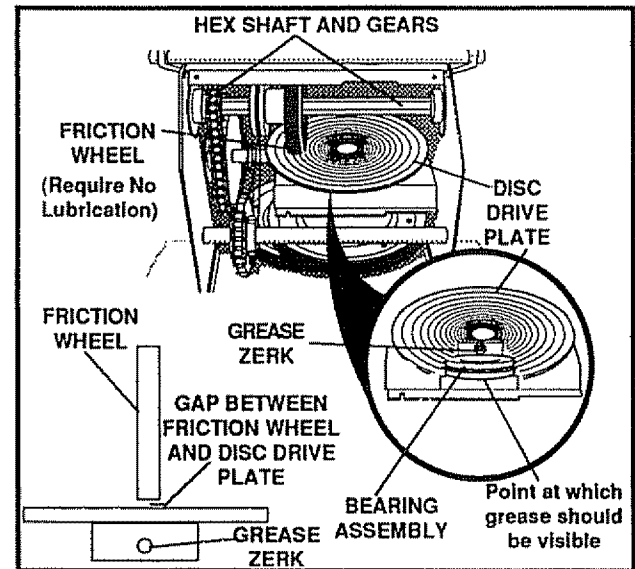

FIG. 18
- Turn disc drive plate clockwise by hand until grease zerk is clearly visible at front center. (see Fig. 18)
- To grease zerk, use a hand grease gun, lubricate with a Hi Temp EP Moly grease. (see Fig. 18 inset) DO NOT over fill or allow grease to come in contact with the disc drive plate or friction wheel or damage will result. Fill zerk only until grease becomes visible below bearing assembly located under grease zerk. (see Fig 18 inset)
- Hex Shaft and Gears - Hex shaft and gears require no lubrication. All bearings and bushings are lifetime lubricated and require no maintenance (See Fig. 18, page 17).
NOTE: For storage, the hex shaft and gears should be wiped with 5W30 motor oil to prevent rusting (See Fig. 18, page 17).